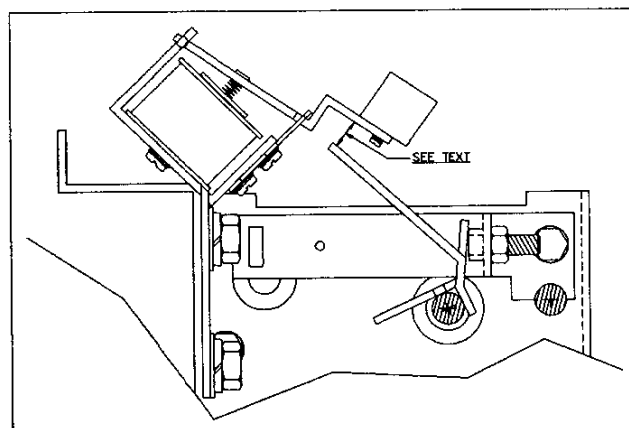

Figure 27. Trip Lever Gap Adjustment
- e. With the breaker mechanism in the reset position, check the gap between the trip coil armature and the trip lever extending from the trip shaft. This gap should be between 1/4 inch and 5/16 inch. If necessary, bend the trip lever slightly to achieve this setting. See Figure 27.